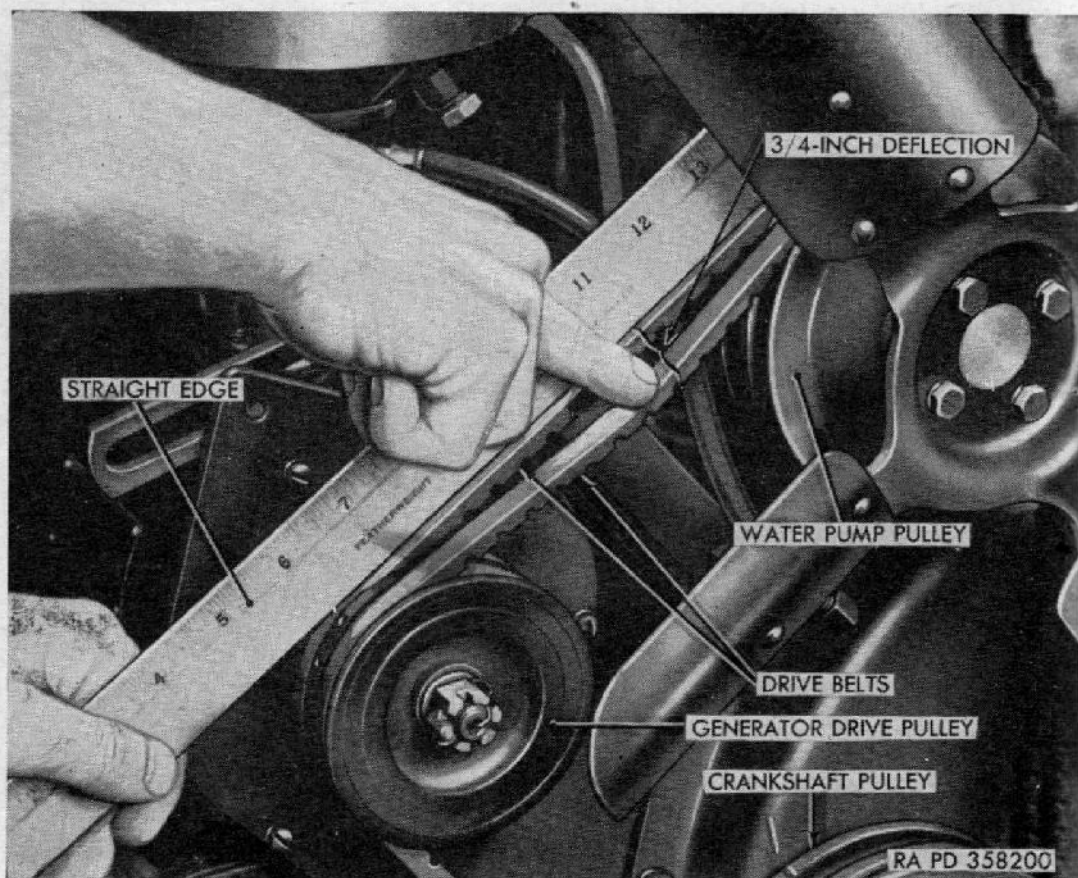

Figure 75. Adjusting drive belts.
(fig. 75)
*c. Installation.* Install drive belts (fig. 75), working with only one at a time, over the fan and into the first groove of the crankshaft pulley and water pump pulley. Work edge of drive belt over edge of generator drive pulley until it fits in groove. Work or rotate drive belt into second groove of all three pulleys; then install second drive belt.